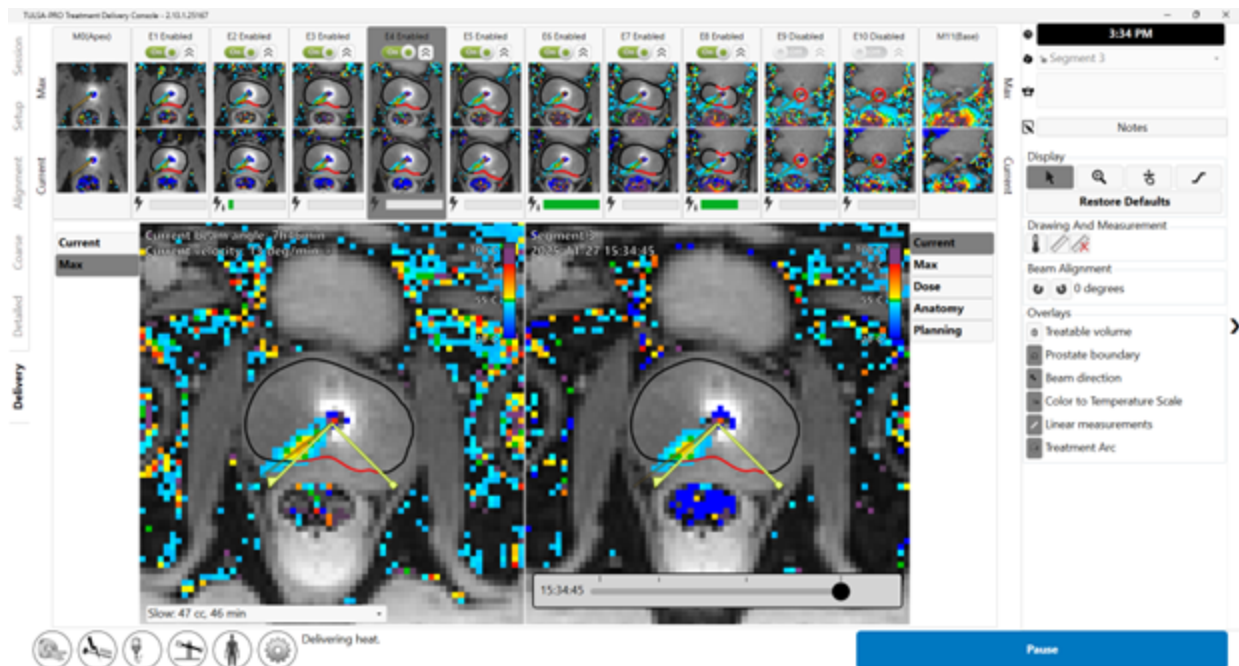
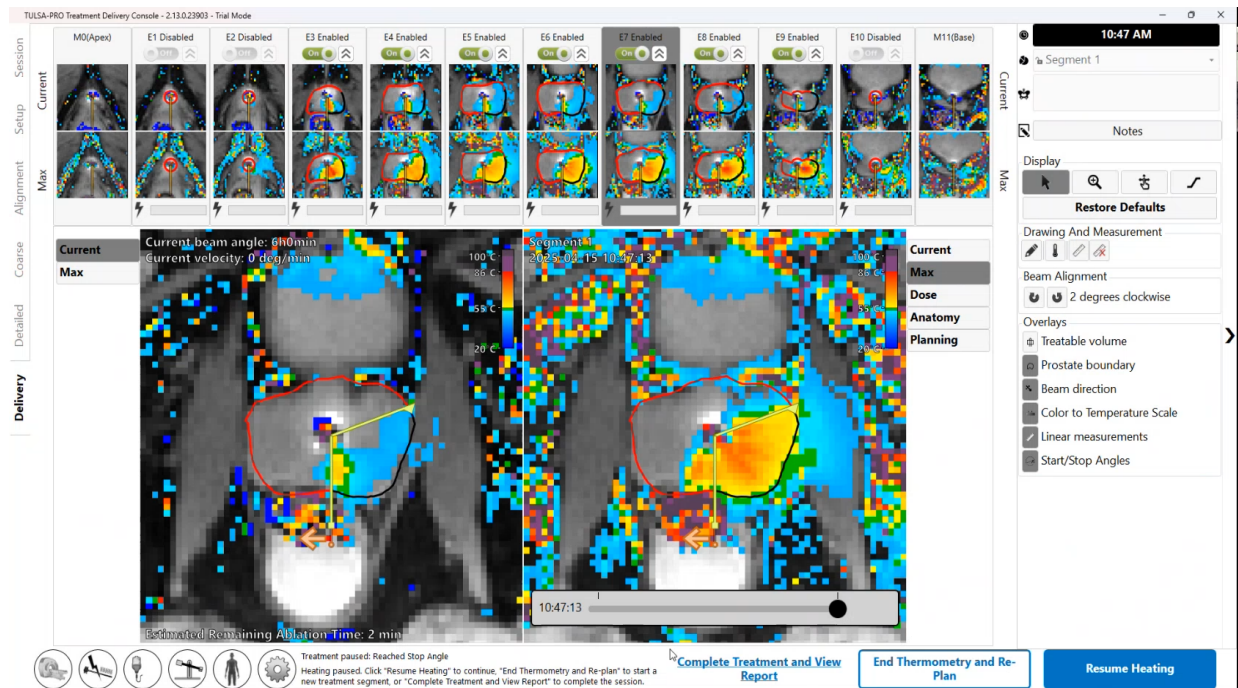

Figure 48: Ultrasound heating has begun
Figure 54: Delivery workspace with treatment and heating paused
**Radiologist:** After receiving 25 thermometry dynamics, heating begins (*Figure 48*). Throughout the ablation, actively monitor real-time treatment images on all slices, ensuring that:
Radiologist: At any time during Delivery, click **Pause** in the bottom-right corner of the screen (see *Figure 48*). While in the paused state, all heating from the UA is suspended while thermometry acquisition continues (*Figure 54*).